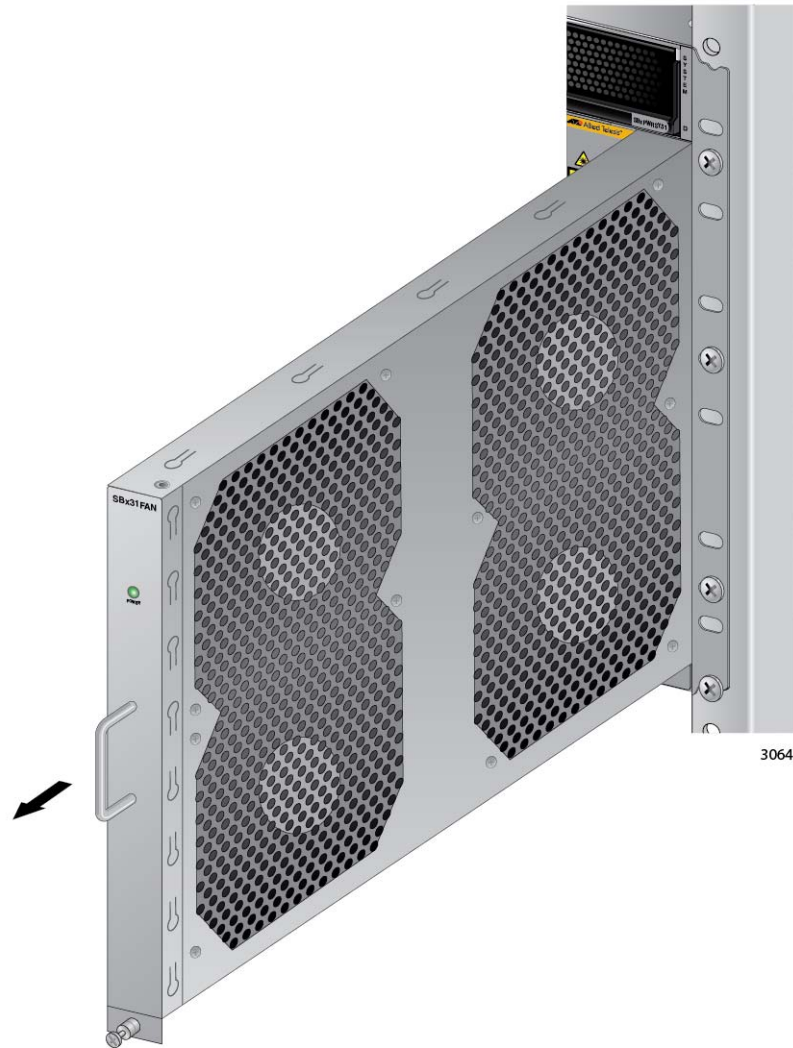

Figure 148. Removing the AT-SBxFAN12 Fan Module from the Chassis
6. After the fans have stopped, slide the module from the chassis. Refer to Figure 148 on page 238.